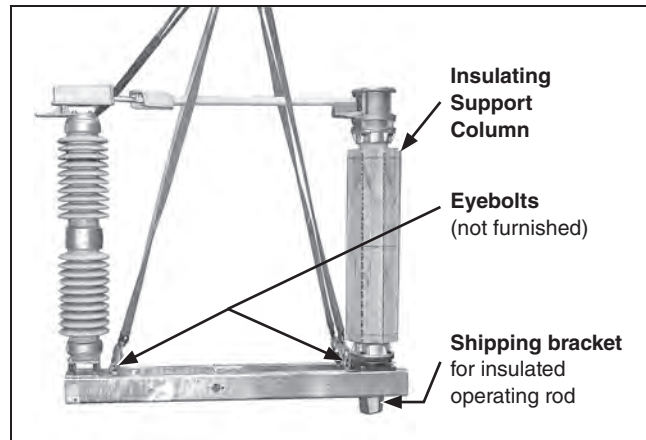

Figure 11. Hoisting the pole-unit.
- (a) Install four eyebolts on each pole-unit base. See Figure 11.
- (b) Attach four suitable lifting slings to the channel base of the pole-unit to be mounted at the center of the high-speed base—marked “Pole 2”—as shown in Figure 11. Attach an additional sling around the support insulator as shown in Figure 11. This sling is required to maintain stability during lifting.